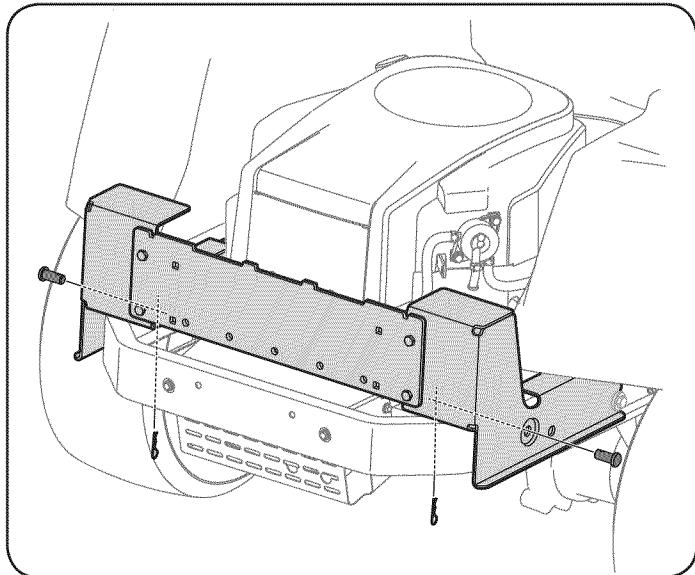

Figure 3
- Secure the mounting bracket assembly to the tractor using two 911-0310 clevis pins and 914-04023 cotter pins from hardware pack 689-00320. See Figure 3.